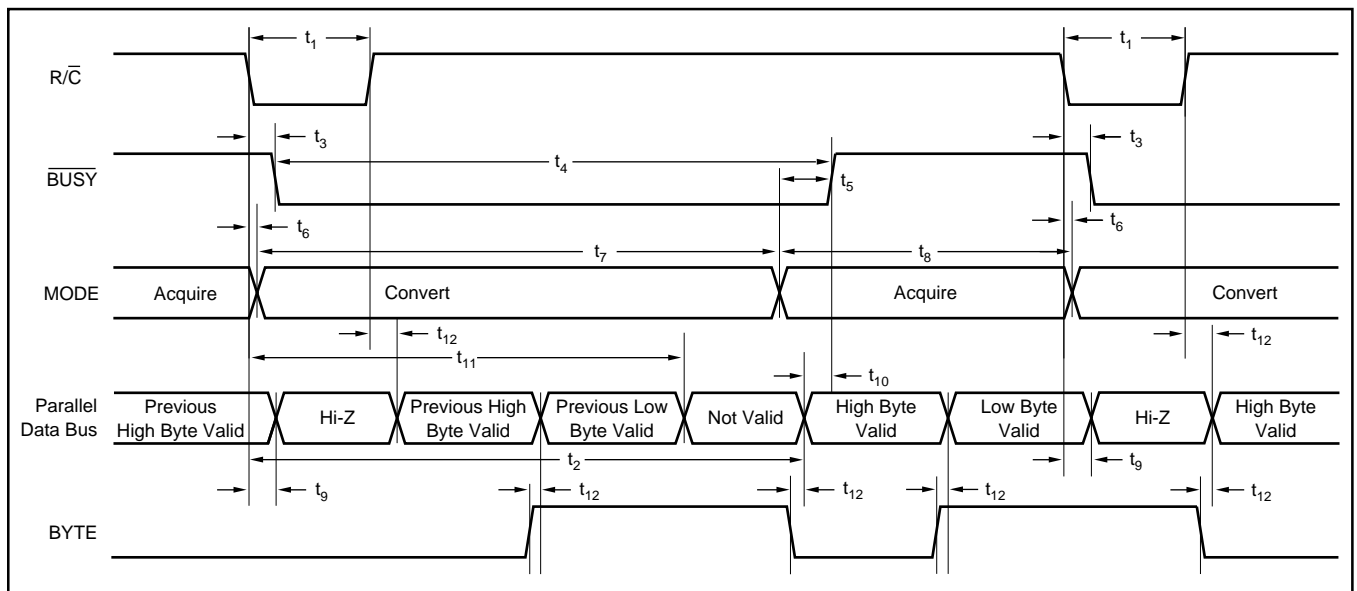

FIGURE 2. Conversion Timing with Parallel Output ( $\overline{\text{CS}}$  and  $\text{DATACLK}$  tied LOW,  $\overline{\text{EXT/INT}}$  tied HIGH).
The ADS7806 will begin tracking the input signal at the end of the conversion. Allowing 25µs between convert commands assures accurate acquisition of a new signal. Refer to Tables II and III for a summary of  $\overline{CS}$ ,  $R/\overline{C}$ , and  $BUSY$  states, and Figures 2 through 6 for timing diagrams.
NOTE: (1) See Figures 2 and 3 for constraints on data valid from conversion 'n - 1'.
After conversion 'n' is completed and the output registers have been updated,  $\overline{\text{BUSY}}$  (pin 24) will go HIGH. Valid data from conversion 'n' will be available on D7-D0 (pins 9-13 and 15-17).  $\overline{\text{BUSY}}$  going high can be used to latch the data. Refer to Table V and Figures 2 and 3 for timing constraints.
After conversion 'n' has been initiated, valid data from conversion 'n - 1' can be read and will be valid up to  $12\mu\text{s}$  after the start of conversion 'n'. Do not attempt to read data beyond  $12\mu\text{s}$  after the start of conversion 'n' until  $\overline{\text{BUSY}}$  (pin 24) goes HIGH; this may result in reading invalid data. Refer to Table V and Figures 2 and 3 for timing constraints.